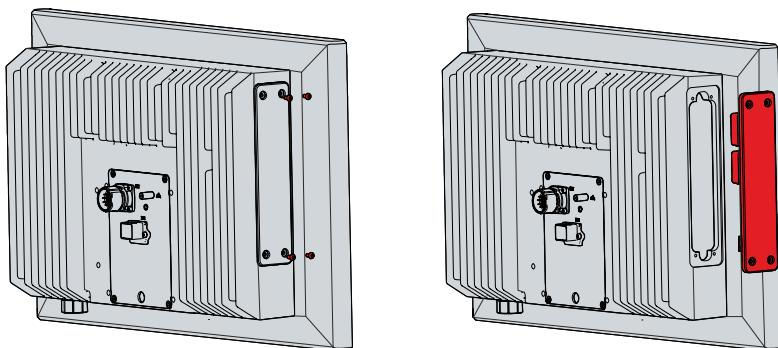

Fig. 42: CP32xx-1600_exchange fan cartridge
1. Pull the hard disk out of the PC (see Fig. 42).